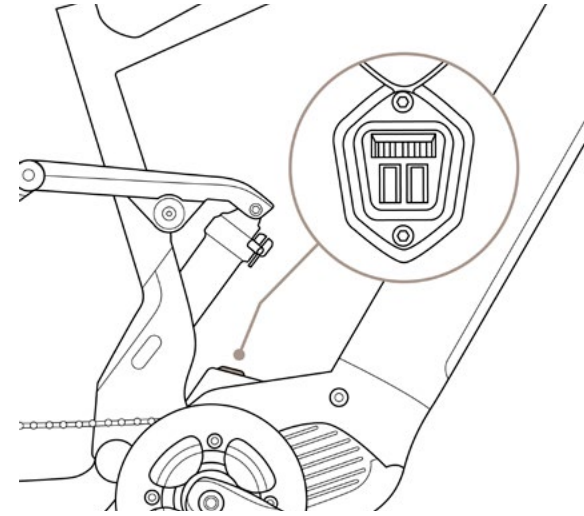

FIG. 9
- The first by connecting the battery charger directly to the frame via the appropriate socket (Figure 9).